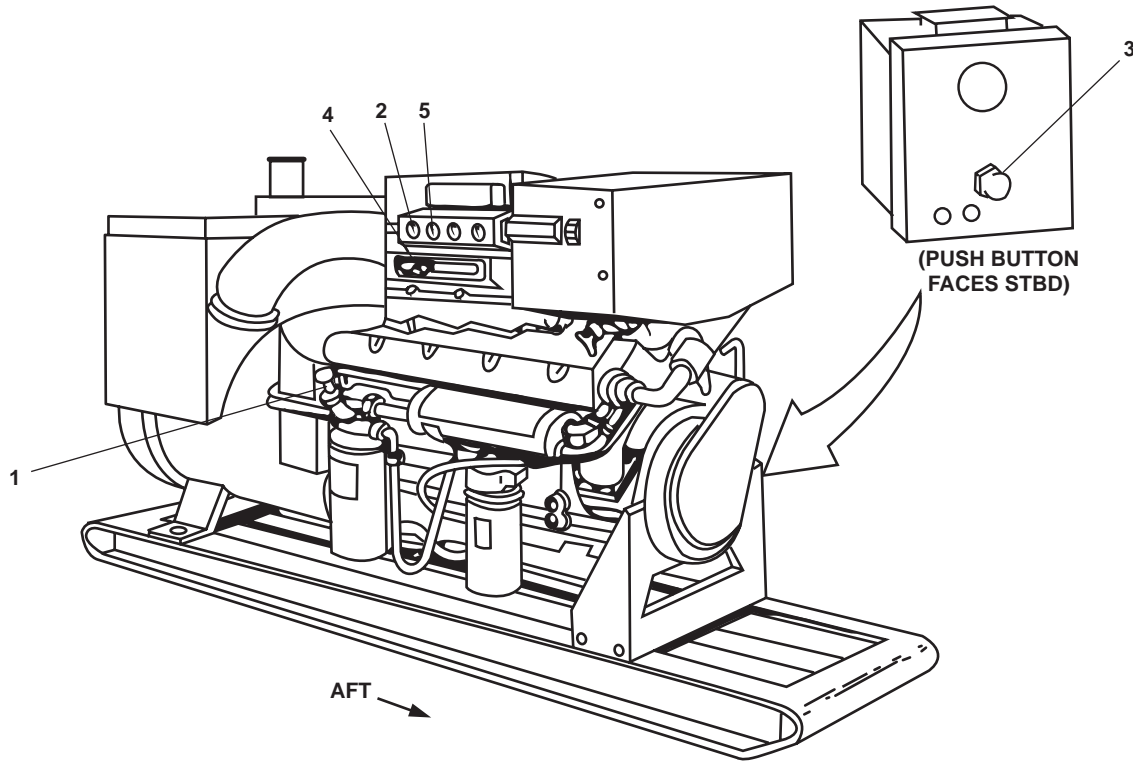

Figure 12. Ship's Service Diesel Generator Controls
- a. Flood the SSDG 1 engine fuel system by using the hand-operated fuel oil priming pump (figure 12, item 1) until a slight pressure is indicated on the engine fuel pressure gauge (figure 12, item 2).
- b. On the SSDG 1 engine control panel, turn the emergency stop pushbutton (figure 12, item 3) clockwise to release it to the OUT position.
- c. Turn the START switch to the START position. When the engine starts, release the START switch (figure 12, item 4).
- e. Allow the engine to operate in a no-load condition for 3 to 5 minutes or until the water temperature gauge (figure 12, item 5) begins to rise.